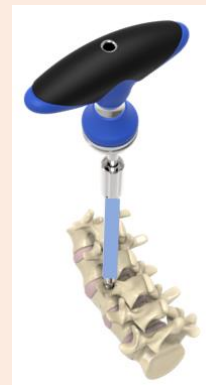

Figure 9
- a. While holding the sleeve of the Modular Screw Driver, insert the screw into the prepared pedicle (Figure 9)